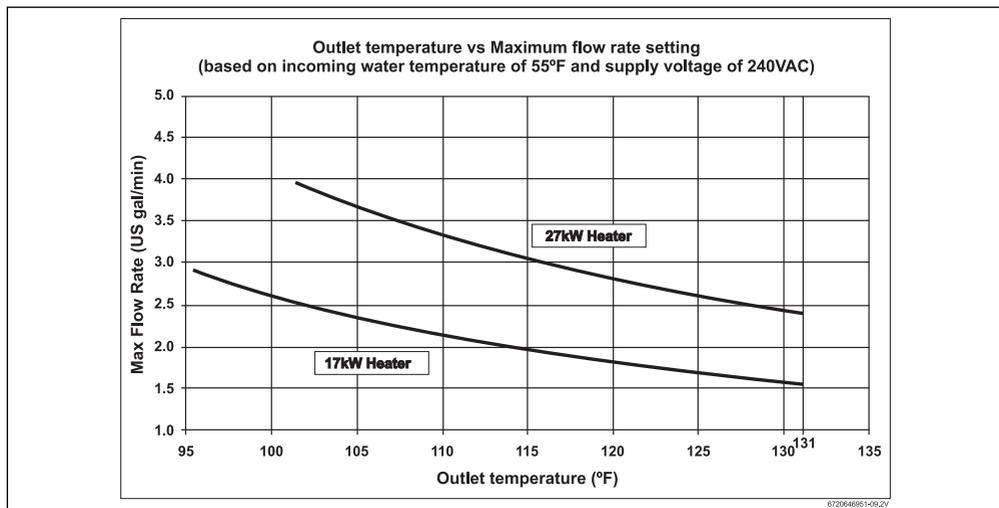

Fig. 11
- ▶ Adjust the inlet shut-off valve until the water flow rate from the hot faucet corresponds to the value given in Fig. 11 below.
- Adjust the inlet shut-off valve until the water flow rate displayed on the unit corresponds to the value given in fig. 11 below, noting any derate due to supply voltage. Derate for 208 and 220V is noted at the bottom of Table 5.
These figures are based on an inlet water temperature of 55 °F and a supply voltage of 240 volts. If the inlet water temperature is lower than 55 °F, or if the supply voltage is less than 240 volts, then the outlet temperature will be lower than what is shown in Fig. 11. If a higher outlet water temperature is desired, then reduce the flow rate and/or supply the unit with 240 volts. Please review Table 5 for derate percentage for supply voltage of 208VAC and 220VAC.
The inlet water temperature is too cold	Verify the heater is sized appropriately for it's geographic location. Turn temperature knob located on the front of the water all the way clockwise for maximum temperature setting. Ensure flow rates are within the heater's specifications. → Refer to Fig. 11 in section 4.6 Starting Up of the manual. Use of an isolation valve on the cold water inlet to control flow rate is recommended.
Temperature dial is turned too low	Turn the temperature dial located on the front of the water heater clockwise for hotter temperatures. → Refer to Fig. 11 for outlet temperature vs. flow rate variance.
Water flow is too high	Adjust water flow to stay within the water heater's specifications. → See Fig. 11 of this manual.
Inlet shut-off valves are set too low	Adjust installer supplied inlet valve as described below: <ul style="list-style-type: none"> • Completely open both installer supplied inlet and outlet shut-off valves at the heater. (if none installed, install before proceeding). • Completely open hot water on the highest flowing hot water fixture served by the heater (i.e. bathtub). • Slowly close the inlet shut-off valve, slowing the water flow rate until the temperature at the hot water faucet corresponds to the values given on → Fig. 11 of the manual, or desired water temperature is reached.
Changing flow rate. Water supply connected to the outlet of the unit.	Major changes in flow rate can adversely affect the output water temperature of the heater. Increases from one major fixture running to multiple fixtures running at one time can cause the temperature to fluctuate. Stay within the heater's specifications. →See Fig. 11.